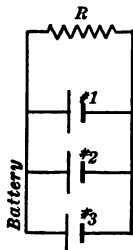

FIG. 254. — Three cells in parallel.
**294. Cells arranged in parallel.** Not only may the separate *external* resistances be arranged in parallel, but the *cells* or generators themselves may be so arranged. For example, in figure 254 we have a battery of three cells arranged in parallel.
For example, suppose that in figure 254 the voltage of each cell is 2 volts, the resistance of each cell is 0.6 ohms, and the external resistance  $R$  is 0.3 ohms, and we desire to find the current through each cell.